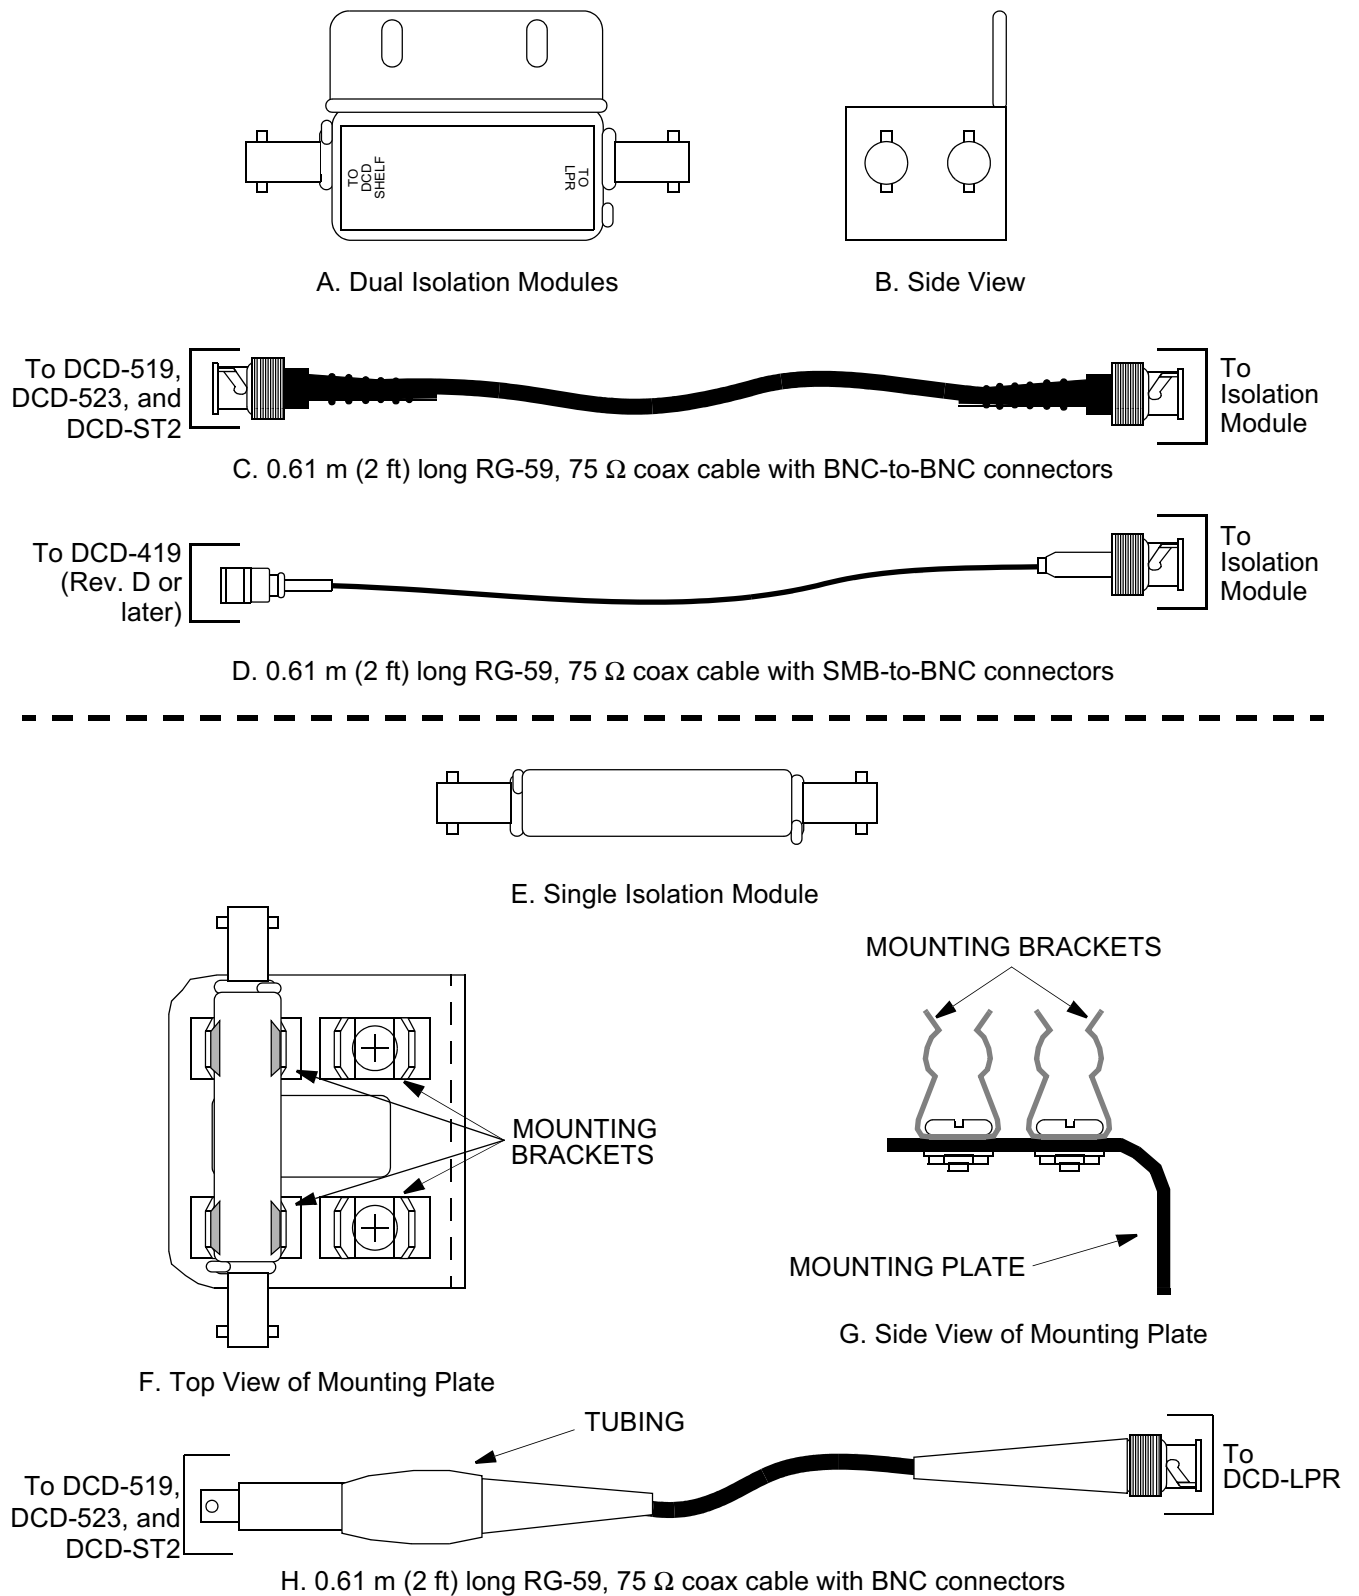

Figure 42. Isolation Modules and Cables
4.33 The isolation kit consists of the module (Figure 42), associated screws, and two 0.61 meter
2. Use the provided 0.61 meter (2 foot) coax cable to connect from the appropriate “A” connector on the DCD Shelf backplane to the “TO DCD SHELF” end of one isolation module (refer to Table J, Figure 42, and Figure 43).
3. Use the 1.8 meter (6 foot) coax cable (from the DCD-LPR hardware kit), and connect from the OSC A connector on the DCD-LPR Shelf to the TO LPR-LORAN end of the isolation module (refer to Figure 42 and Figure 43).
4. If applicable, repeat Steps 1 through 3 to a second isolation module, but connect to the appropriate “B” connector on the DCD Shelf backplane (refer to Figure 42 and Figure 43).